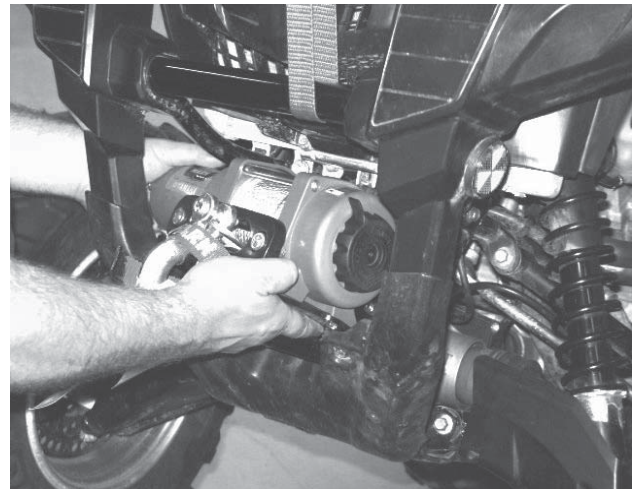

Figure 10
10. Place the mounting plate into position on the ATV. (figure 10)
11. Attach the front of the mounting plate with the two M10 X 1.25 X 16mm hex flange head bolts, and two M10 X 1.25 hex flange head nuts, finger tighten at this time. (figure 10)
12. Attach the rear of the mounting plate with the two M10 X 1.25 X 16mm hex flange head bolts (figure 10). Tighten all four mounting bolts at this time to 35 ft/lbs.